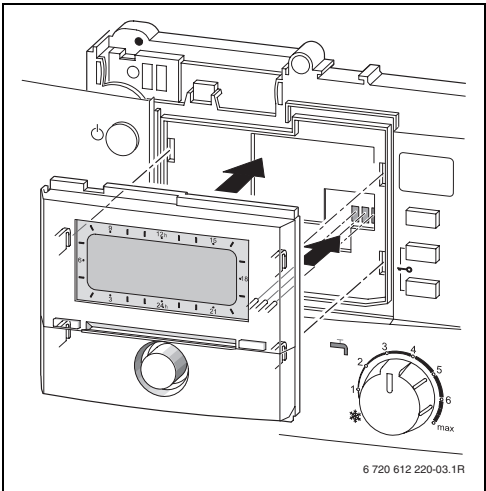

Fig. 6
- Installation of the controller automatically produces BUS connection via the three contacts (→ Fig. 6 on page 12).